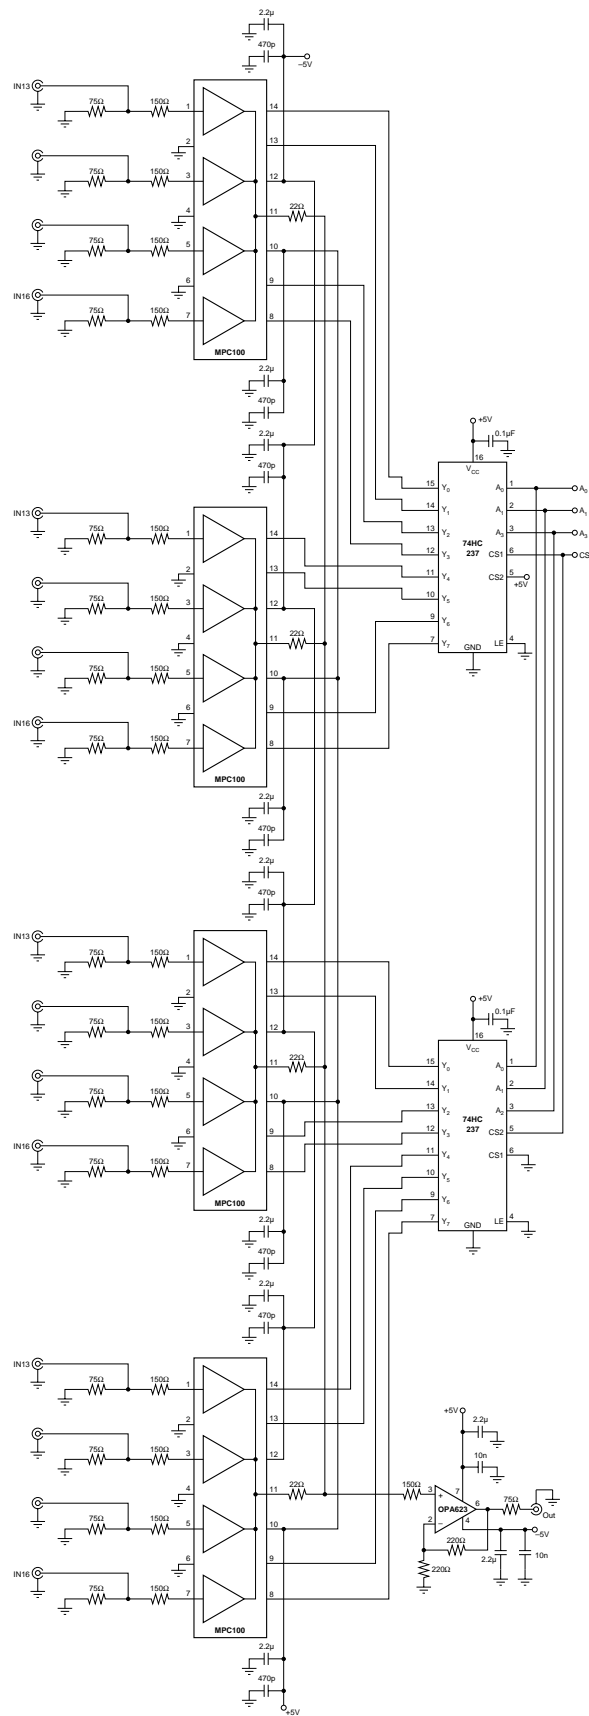

FIGURE 6. Video Distribution Field.
- Use a low-impedance ground plane on the component side to ensure that low-impedance ground is available throughout the layout. Grounded traces between the input traces are essential to achieve high interchannel crosstalk rejection. Refer to the suggested layout shown in Figure 6.